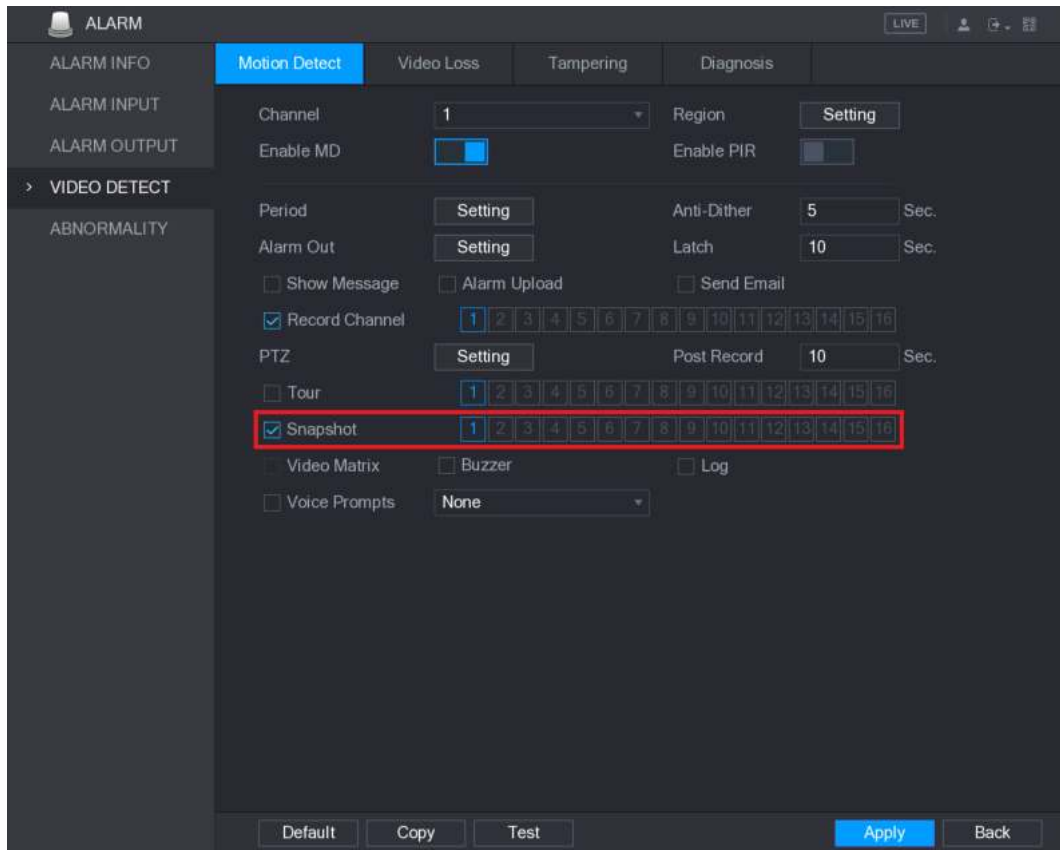

Figure 5-92
Step 3 Select **Main Menu > ALARM > VIDEO DETECT**, and select the event type to configure, for example, select the **Motion Detect** tab. See Figure 5-92.